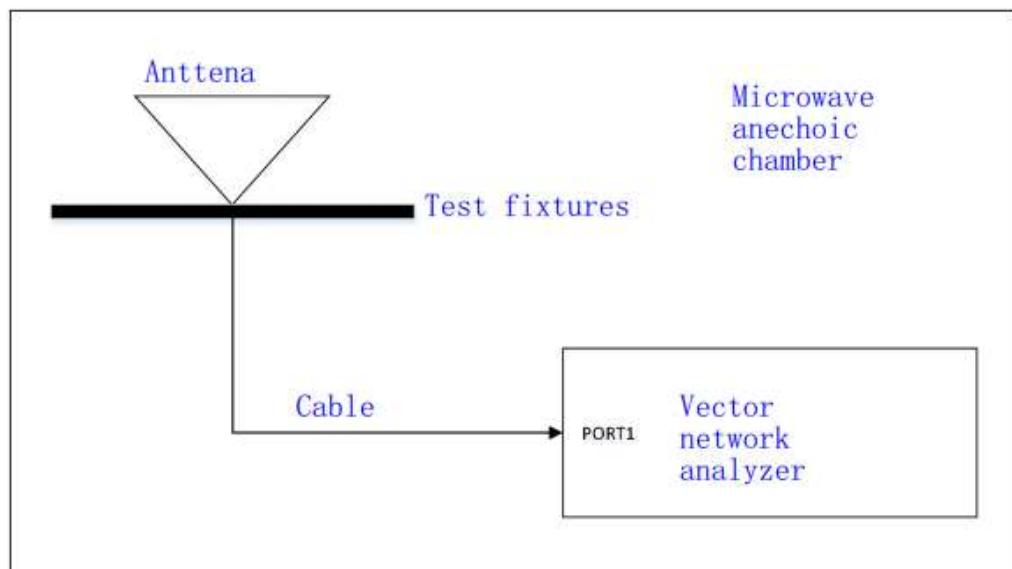

Figure 2: Antenna VSWR Test schematic
- 3) As shown in Figure 2, in a microwave anechoic chamber environment, connect the L1 or L2 ports of the antenna under test and other test equipment, and connect the other ports of the passive antenna to a 50Ω load;